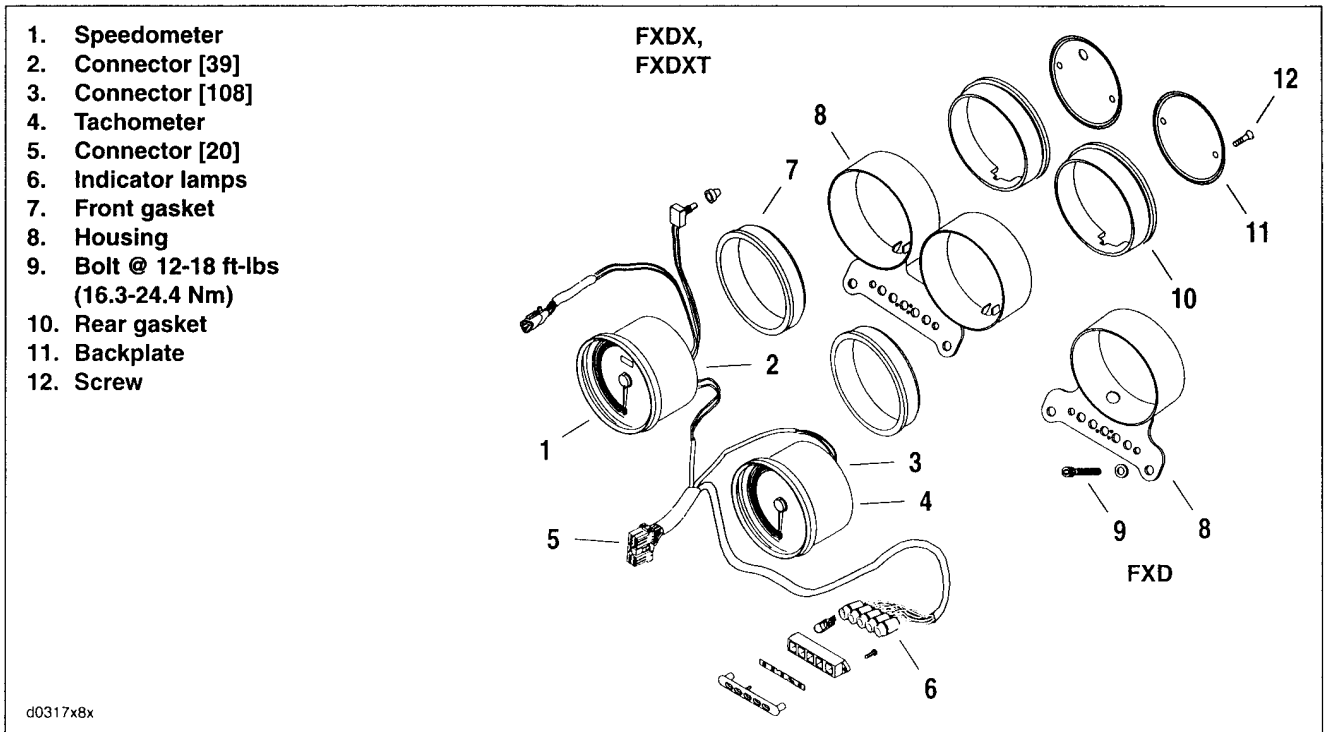

Figure 8-57. Instrumentation: FXD, FXDX, FXDXT
1. See Figure 8-57. Remove two screws (12) and backplate (11).
2. Depress tab and remove 12-pin connector (2) [39] from back of speedometer.
3. Push speedometer (1) through front of housing.
4. Remove front gasket (7) from speedometer.
2. Depress tab and remove 6-place connector (3) [108] behind headlamp.
3. Push tachometer (4) through front of housing. Remove screw holding harness in place.
1. See Figure 8-57. Install front gasket (7) to speedometer and slide speedometer into housing. Press firmly until fully seated.
2. Connect 12-place connector (2) [39] to back of speedometer.
3. Route wires through slot in back of instrument housing. Install gasket (10) on back of housing. Install backplate (11) with two screws (12).
1. See Figure 8-57. Install front gasket to tachometer and slide tachometer into housing. Press firmly until seated.